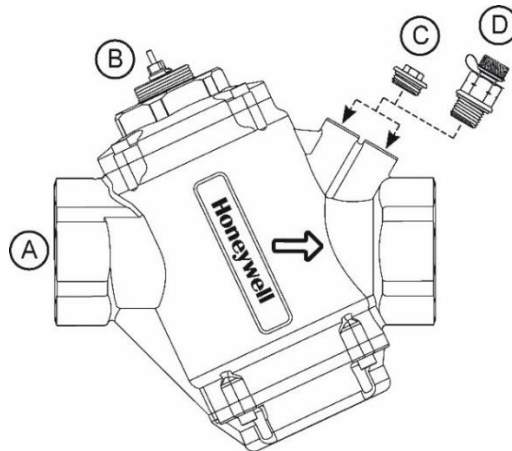

Figure 6 DN40-50 Valve Components
4. See *Figure 6* to familiarize yourself with the valve and its components. The Valve Body (A) is the housing marked with an arrow to show flow direction. The Flow Regulator (B) which is fixed with valve body, regulates flow.